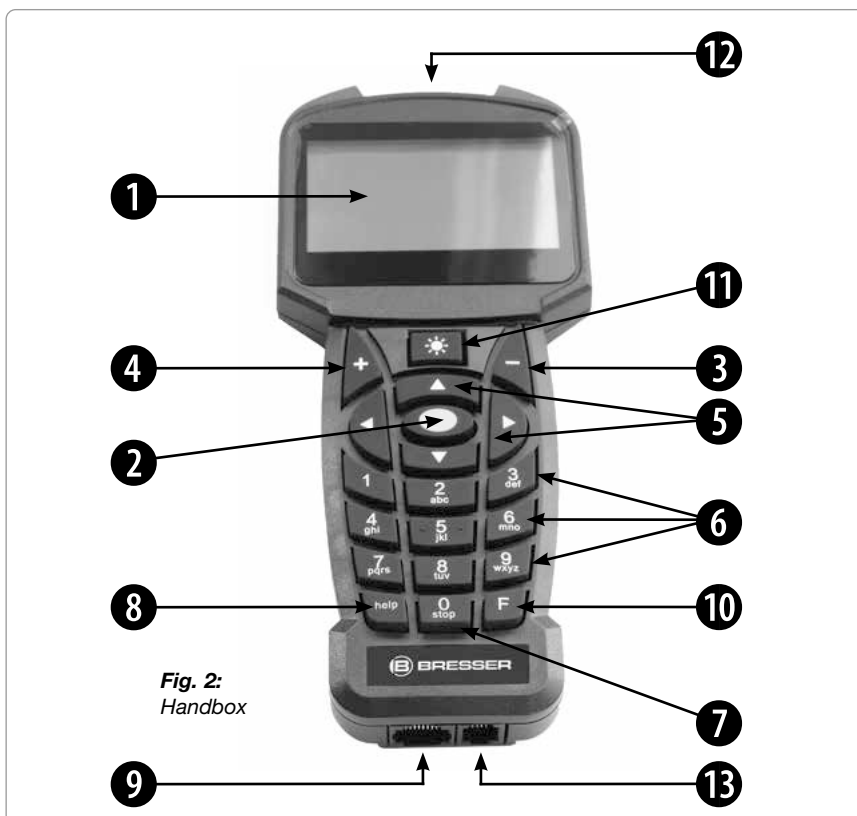

Fig. 2:
1. **The eight-line LCD display (1, Fig. 2)** – It functions as an interface between the hand box and the telescope.
2. **ENTER Key (2, Fig. 2)** – Press to go to the next menu level or to choose an option in a menu. The ENTER key is similar to the RETURN or ENTER key on a computer.
3. **MODE Key (3, Fig. 2)** – Press to return to the previous menu level. The top menu level is "Select Item." The MODE key is similar to the ESCAPE key on a computer.
4. **+ Key (4, Fig. 2)** – With this, the most recently tracked objects can be recalled for quick access. Use the direction buttons when selecting an observation object and press the ENTER button. The telescope control subsequently positions the selected object in the visual field. It may occur that the object does not appear in the centre of the visual field after the positioning. Centre, in this case, the object with the direction buttons.
5. **Arrow Keys (5, Fig. 2)** – Press to slew the telescope in a specific direction (up, down, left, and right), at any one of nine different speeds. See **SLEW SPEEDS**, page 9. The following functions are additionally possible using the arrow buttons:
- 6. Number Keys (6, Fig. 2)** – Press to input digits 0 to 9. When data is not being entered, the Number keys can be used to change the slew speed. To operate, just press a number key (1 is the slowest speed, 9 is the highest speed). Press the Number key „0“ to turn on and off the red utility light on the top of the handbox.
- 7. Stop button (7, Fig. 2)** – This allows you to interrupt any driven movement of the telescope. After pressing again, the telescope once again initiates operation of the last executed function.
- 8. Help button (8, Fig. 2)** – This allows you to access the help function. As soon as your queries have been dealt with sufficiently by the help function, press the MODE button and return to the original display in this manner. Proceed with the previously selected procedure.
- 9. Coil Cord Port (9, Fig. 2)** – Plug one end of the coil cord (9, Fig. 2) into this port located at the bottom of the handbox and the other end into the HBX port of the computer control panel.
- 10. Coil Cord (10, Fig. 2)** – Plug one end of the coil cord into the HBX port (Fig. 1c) of the computer control panel of the telescope and the other end into the handbox coil cord port.
- 11. Illumination button for the flashlight (11, Fig. 2)** – Turn on the flashlight (12, Fig. 2) in two brightness levels by repeated pressing and then turn it back off again.
- 12. Utility Light (12, Fig. 2)** – Use this built-in red light to illuminate star charts and accessories without disturbing your eye’s adaptation to darkness.
- 13. Port for further developments (11, Fig. 2)** – Never attempt to connect a PC connection cable, not released by the Bresser company, with this interface. This can lead to serious damage of the electronics!
4. Then you will be prompted to enter the date and time. The date is entered in the „year-month-day / e.g.: 2013-31-12“ format. The time is entered in the „hour-minute-second / e.g.: 20-15-00“ format. Use the arrow buttons for this purpose and confirm your entry with the ENTER button (2 and 5, Fig. 2).